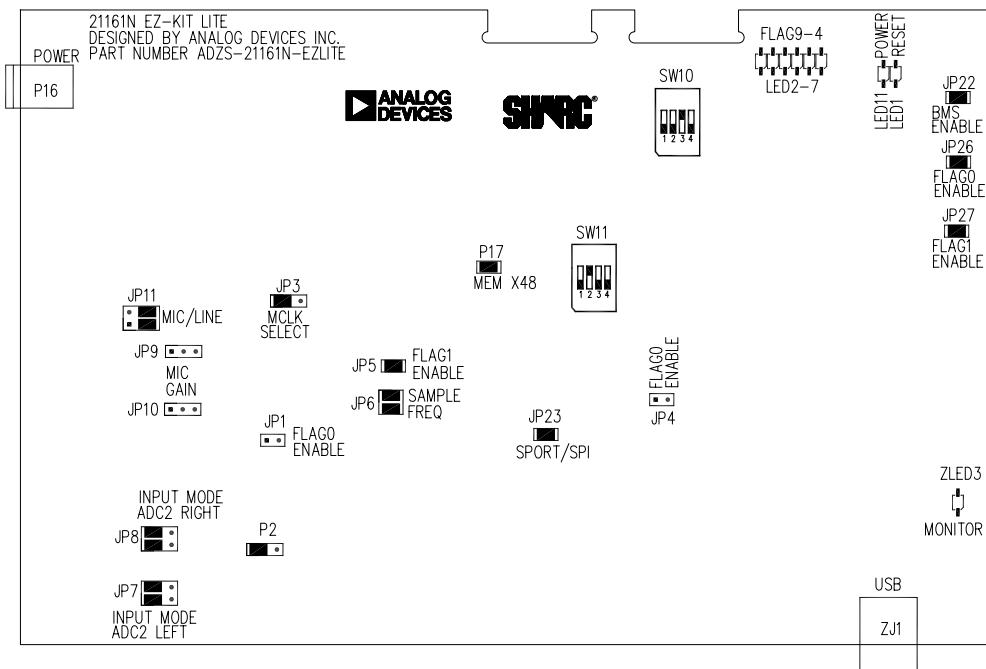

Figure 1-1. EZ-KIT Lite Hardware Setup
2. Figure 1-1 shows the default jumper settings, switches, connector locations, and LEDs used in installation. Confirm that your board is set up in the default configuration before continuing.